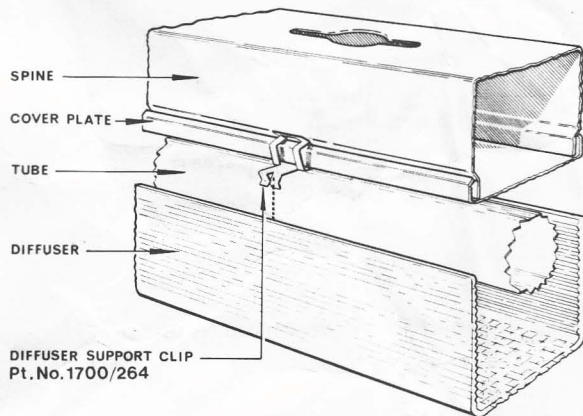

Fig. 7. Single 8ft. PPC and PPD Diffuser
1. Diffusers are packed complete with springs and end caps. The 8ft. single PPC and PPD diffusers utilise a centre support spring which is packed with the diffuser. (See Fig. 7).
NOTE: An additional spring is supplied with 8ft. PPC and PPD single diffusers. This is assembled to the spine and the diffuser sides are clipped into the tongues as shown in Fig. 7.